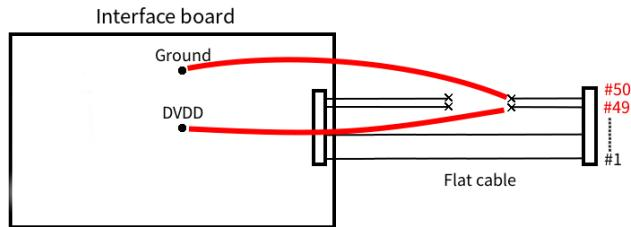

Figure 1.26: How to connect the #49 and #50 wires to the DVDD and Ground pins.
8. Connect wire number 50 of the flat cable (it is white in our case) to any ground pin on the interface board. You have to connect the “ASU end” of the wire to ground in a similar way as shown in Figure 1.26 for the case of cable 13.
9. Connect wire number 49 of the flat cable (it is blue in our case) to the DVD pin on the interface board. The DVDD pin is located near the M9 chip that you just desoldered. You have to connect the “ASU end” of the wire to the DVD pin in a similar way as shown in Figure 1.26 for the case of cable 13.